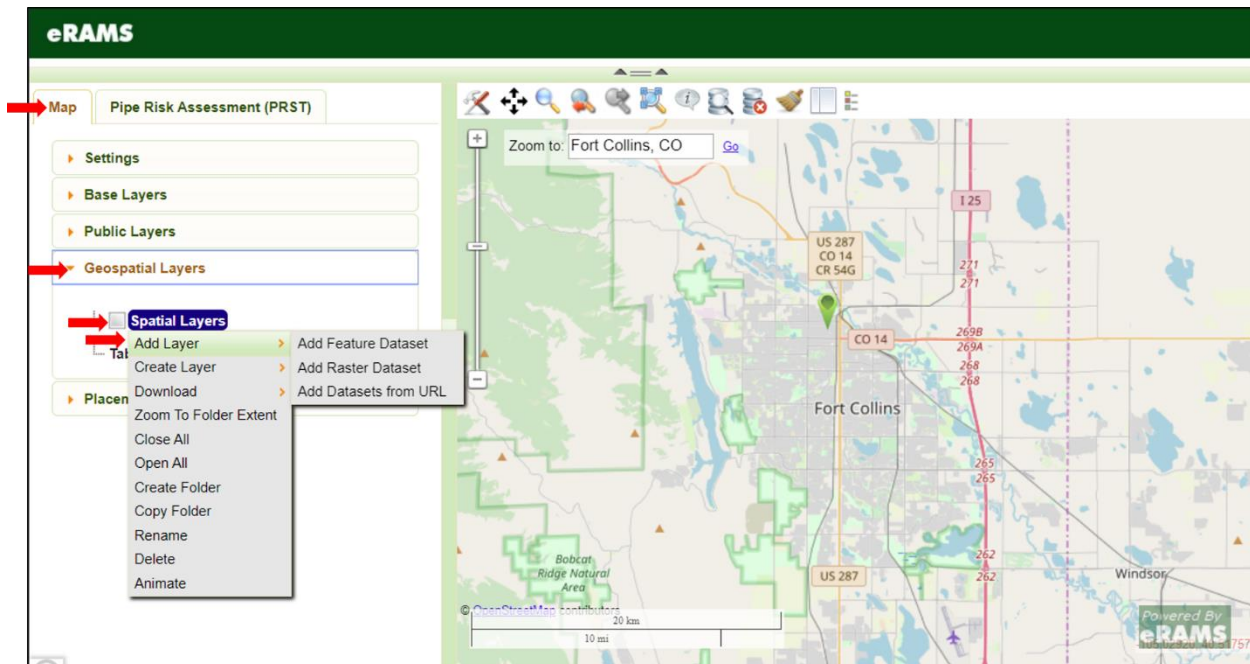

Figure 2: Add a shapefile using the PRST interface
2. Select "Geospatial Layers" > "Add Layer" > "Add Shapefile" (Figure 2)